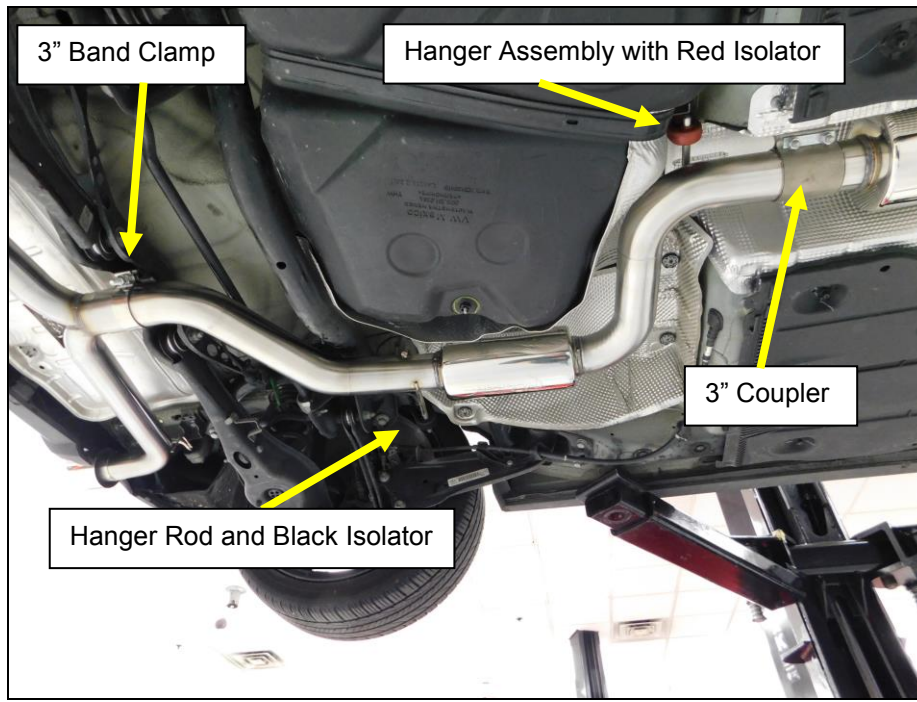

Figure 5
6. Install the supplied 3" coupler on to the outlet of the mid pipe with the clamp on the right side and the nuts facing down. Do not tighten the nuts at this time (**Figure 5**).
7. Install the Center exhaust hanger assembly with the red isolator in the same location it was removed (**Figure 5**).
8. Install the Blackheart muffler assembly into the vehicle, Insert the muffler pipe into the Blackheart tailpipe assembly and rotate the muffler assembly up to align with the mid pipe. Install the hanger rod into the red hanger isolator (**Figure 5**).
9. Slide the 3" coupler from the mid pipe onto the muffler pipe with a 50/50 split between the mid pipe and the muffler pipe and tighten to allow for adjustment (**Figure 5**).